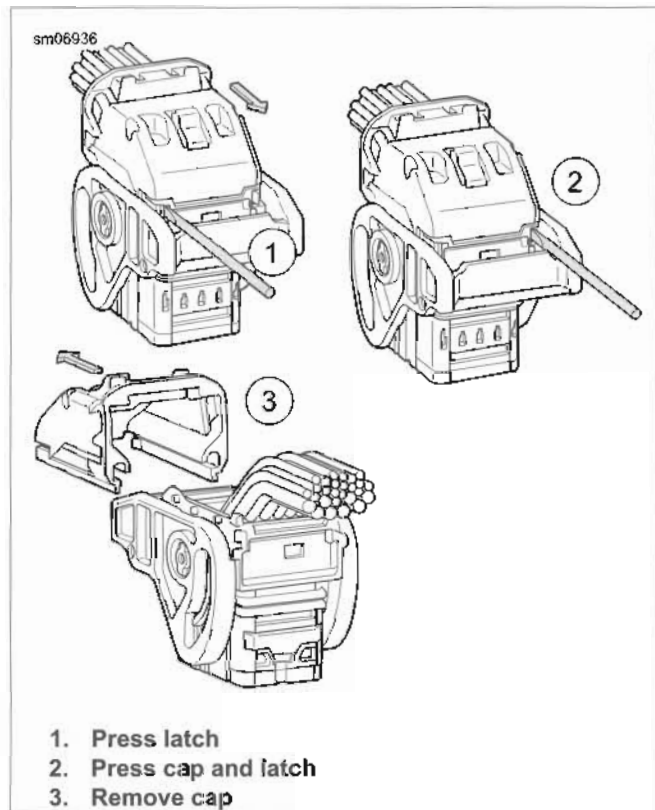

Figure A-43. Remove the Wire Lead Cap
2. See Figure A-43. Open a wire cap latch (1) with a small screwdriver.
3. Maintain pressure on the cap and open the opposite latch (2) with the screwdriver.
4. Slide the cap off (3).